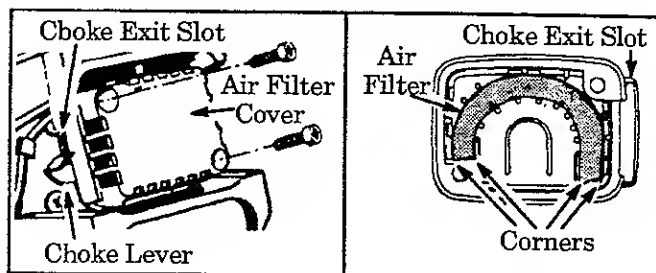

Figure 25
- a. Loosen the screws on the air filter cover enough to remove the cover from the engine. Figure 25.
- b. Remove air filter from cover. Figure 25.
- e. Reinstall air filter cover; make sure choke exit slot is placed over choke lever. Figure 25.